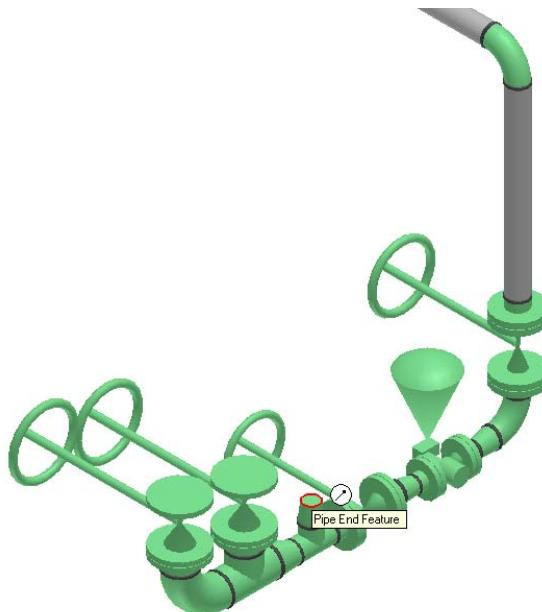

Figure 92: End Point of the Concentric Reducer
56. Click the **Route Pipe** button on the vertical toolbar and locate the end of the concentric reducer, as shown in Figure 92.